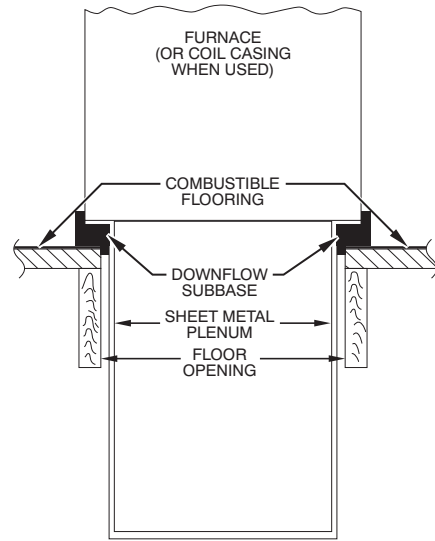
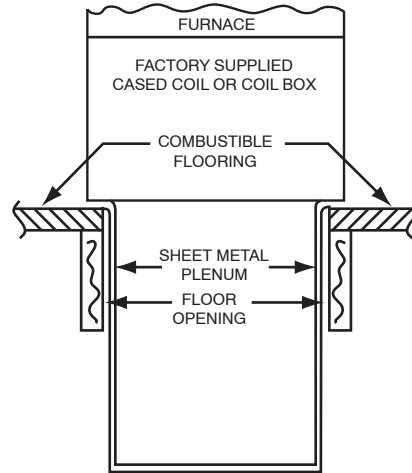

Fig. 22 - Furnace, Plenum, and Subbase Installed on a Combustible Floor
Fig. 23 - Furnace, Plenum, and Coil Assembly or Coil Box Installed on a Combustible Floor
4. If downflow subbase (KGASB) is used, install as shown in Fig. 22. If Coil Assembly Part No. CAP, CAR or CNPV, CNRV or Coil Box Part No. KCAKC is used, install as shown in Fig. 23.